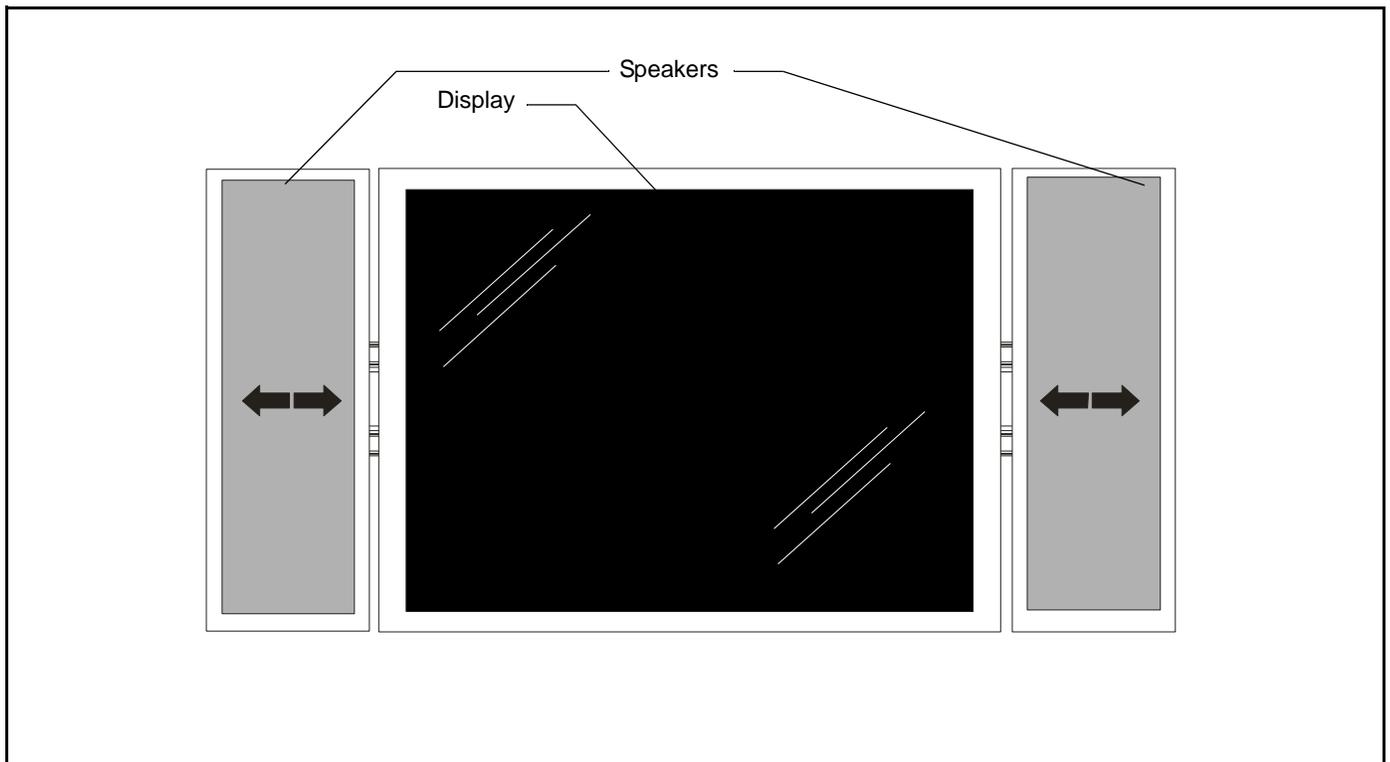

Figure 14
7. Adjust speaker horizontal location. (See Figure 14)